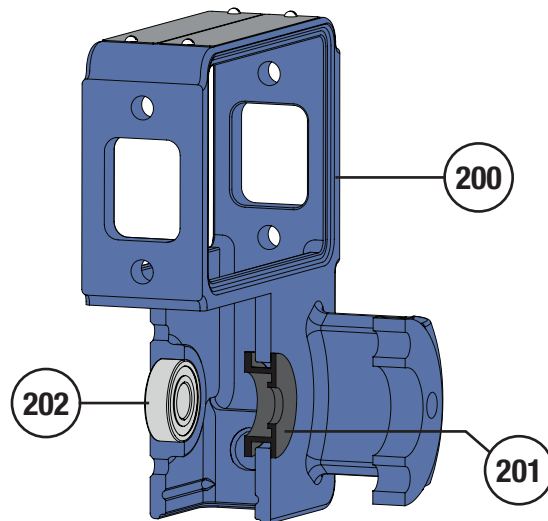

Figure 49 Grommet/Shaft Bearing Installation
- Install the grommet (Key 201) and shaft bearing (Key 202) in the yoke (Key 200) as shown in Figure 49. **NOTE:** The bearing should install easily, ensure the yoke is clean and do not use excessive force installing the bearing.